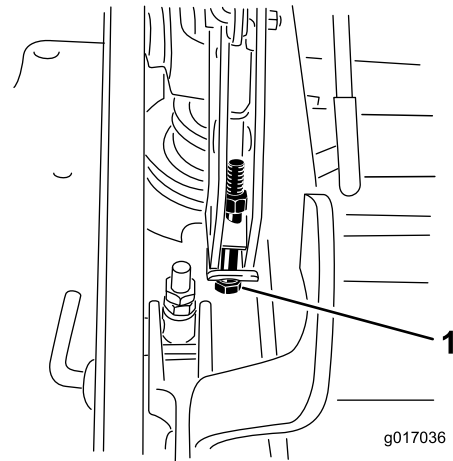

**Figure 90**
12. To adjust the single point system, loosen the two bolts at the bottom of the height of cut plate. Refer to Figure 90.
14. Tighten the two bolts at the bottom of the height of cut plate (Figure 90). Torque to 27-33 ft-lb (37-45 N-m).